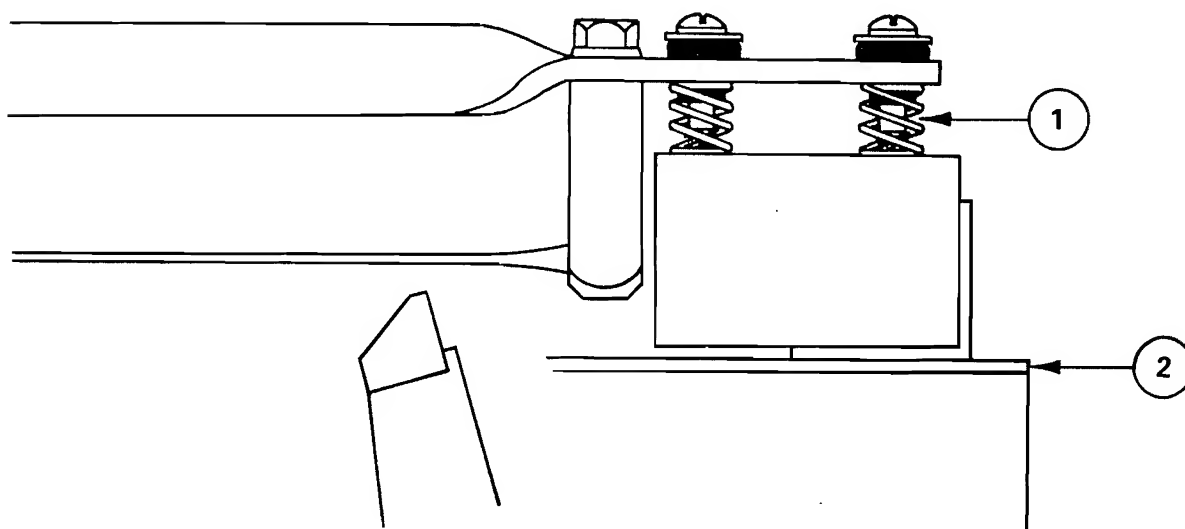

Figure 4-3. Escapement Adjustment Locations
A quick glance at Figure 4-3 will reveal that there are two ways of achieving a fine, custom adjustment of the Escapement Distances.
- b. Adding or subtracting shims from the Harp Supports (Figure 4-3, 2) should be resorted to ONLY for the purpose of establishing Escapement at the extreme Bass (left) Tone Bar (1/4" minimum to 3/8" maximum) (6.350mm minimum to 9.525mm maximum) and the extreme Treble (right) Tone Bar (1/32" minimum to 3/32" maximum) (0.794mm minimum to 2.381mm maximum).